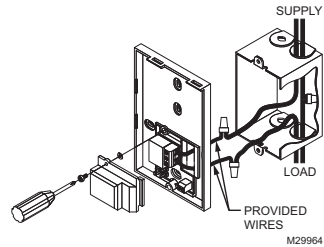

Fig. 2. Routing wires to thermostat.
4. Pass the wires through the opening to the right of the terminals. See Fig. 2. Secure the rear module to an electrical box or to the wall using the supplied wall anchors and screws.